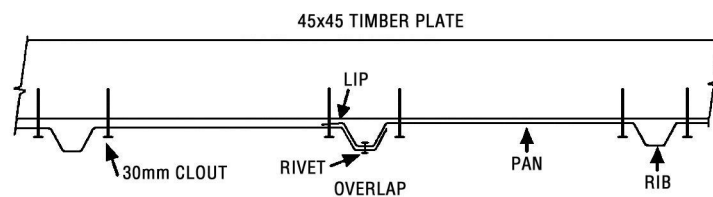

fig. 1
Step 2: Back Wall: Position the first Wall Sheet with the LIP on the right hand side. Ensuring the LIP is flush with the side of the corner Stud and the top of the Wall Sheet is 45mm down from the top plate, tack in place. Position the next Wall Sheet with the LIP on the right hand side. Overlap as shown in **fig 1 pg 6**. Ensuring Wall Sheet is 45mm down from the top plate, tack in place.